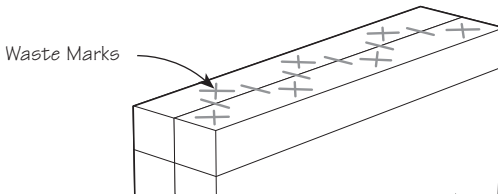

Figure 8: Marking the waste areas.
6. Mark the waste areas on each board (see **Figure 8**). These marks will provide helpful reminders for cutting in the waste areas and not in the save areas.